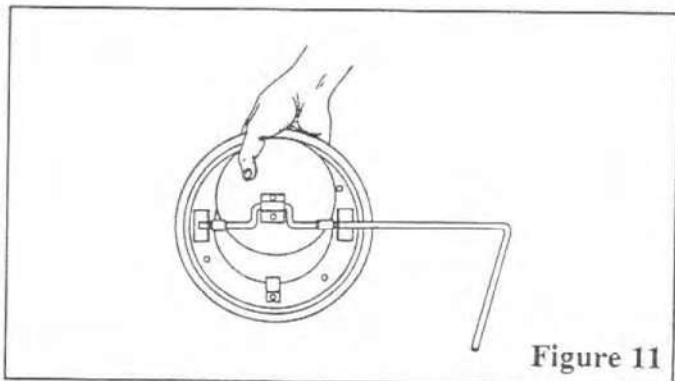

Figure 11
**STEP 4:** Hold the air gate in the left hand as shown in Figure 11.